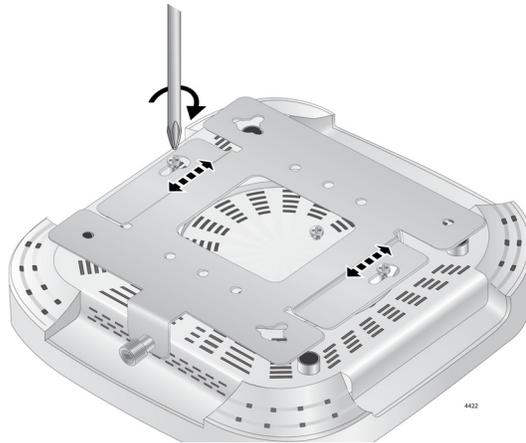

Figure 6. Adjusting the Screws on the Access Point
2. Align and insert the two screws installed in Step 1 into the mounting bracket keyholes as shown in Figure 6.